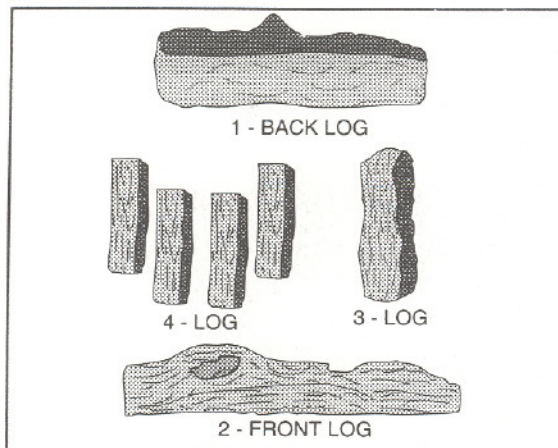
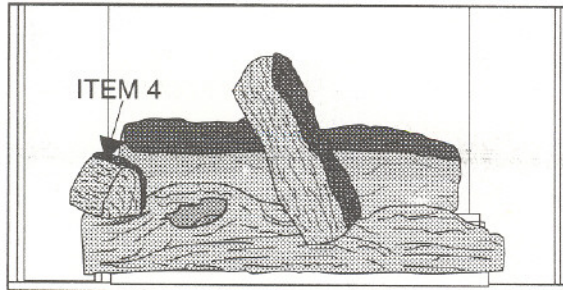

Figure 40
Figure 46
5. See Figure 46. One of the small straight logs (Item 4) is installed next. See Figure 40 for identification. Position this log with the "bark" of the log to the right. Place one end of the log in the indentation on the left side of the front log. Rest the opposite end of the log on the Back Log Support, left of the Back Log.